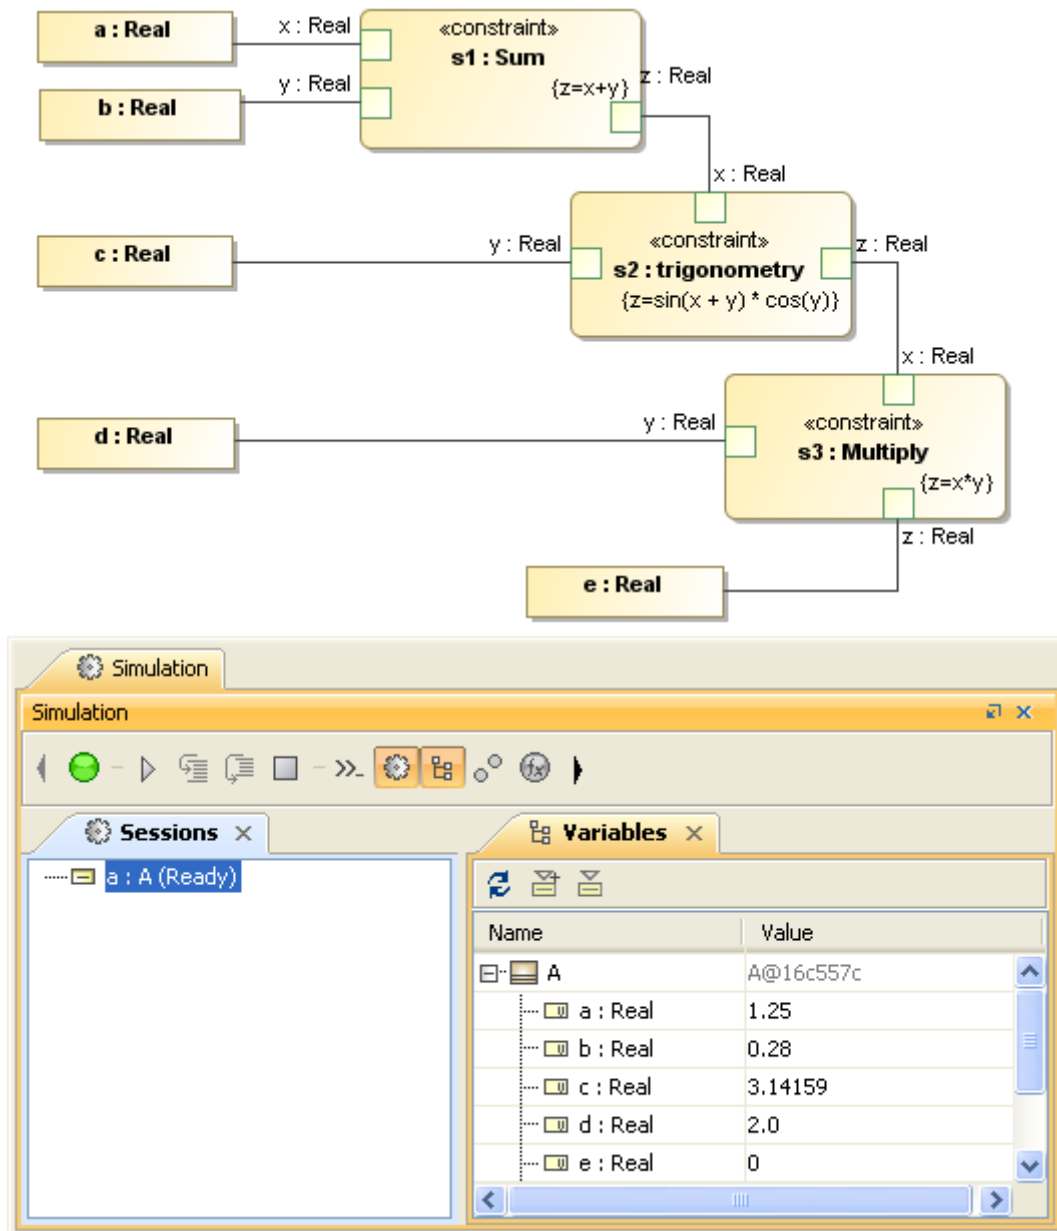

Figure 94 -- Initializing Parametric Simulation Engine with a Selected Classifier
2. Once the Parametric Simulation Engine has been started, the runtime structure of the executed classifier will be shown in the **Variables Pane** (Figure 94). You can modify the values in the value column of the **Variables Pane**.